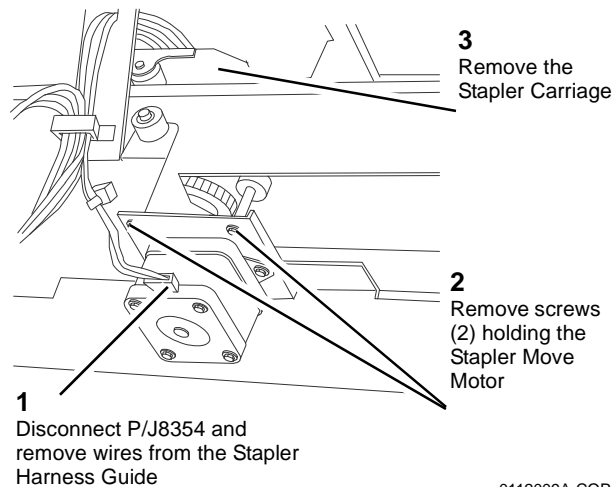

Figure 1 Removing the Stapler Carriage
5. Remove the Stapler Carriage (Figure 1).